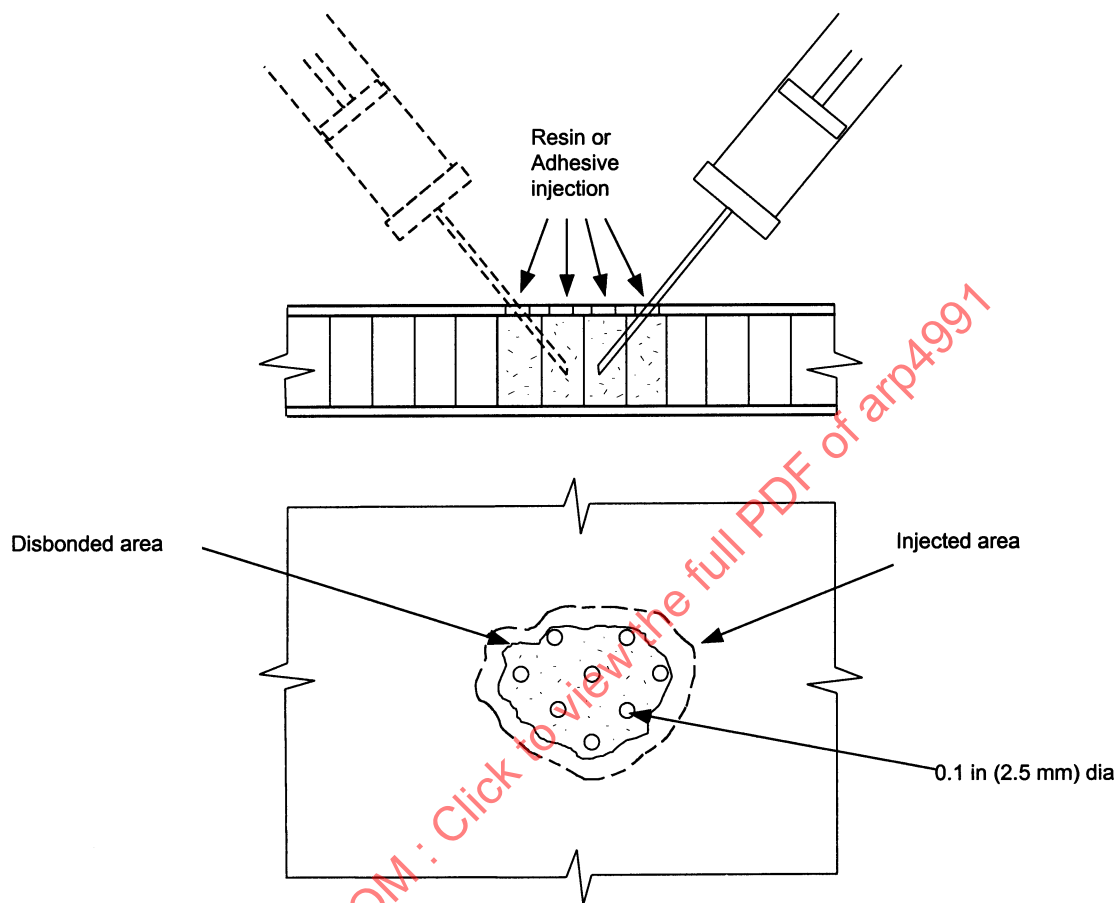

FIGURE 2 - Restoration With Resin Method
5.1.3 Core Filling With Resin Method (Figure 2):